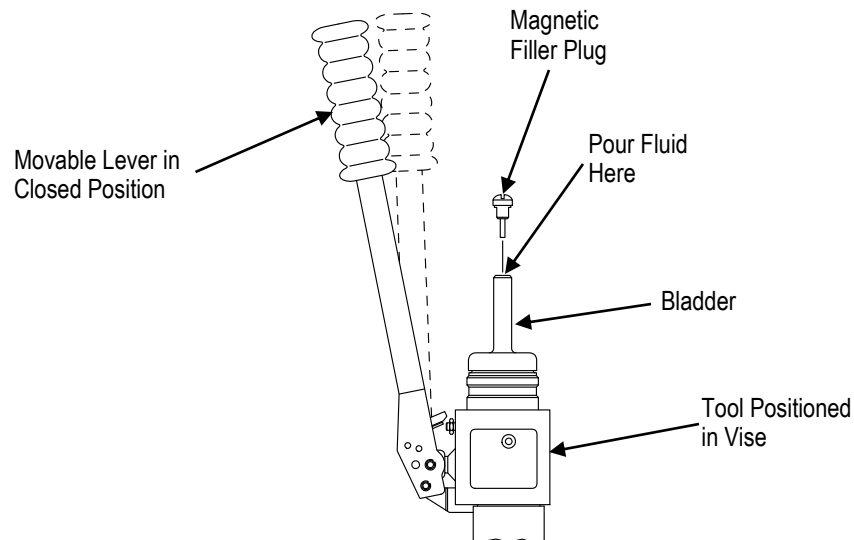

Figure 2
5.5. Hydraulic Fluid Level Inspection/Fill (Figure 2)